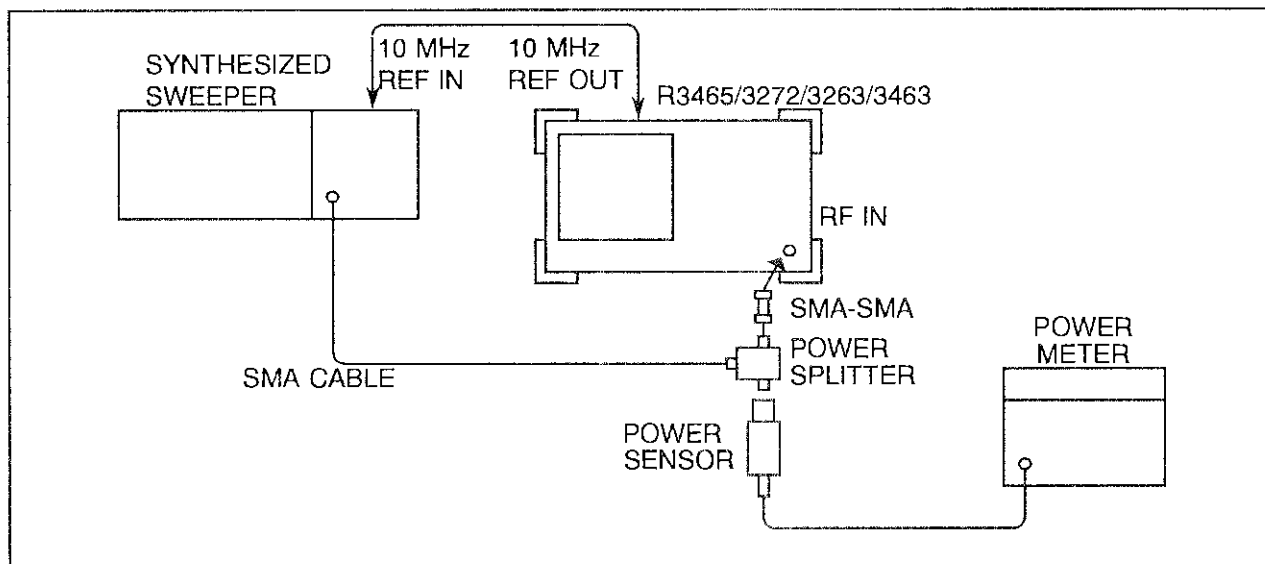

Figure 1-13 Frequency Response Test Setup
(1) Zero and calibrate the power meter.
(2) Connect the equipment as shown in Figure 1-13.
(3) Press the INSTR PRESET key on the SG3. Set the SG3 controls as follows: